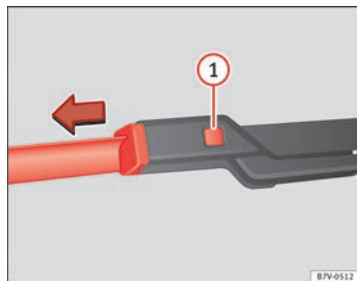

Fig. 160 Changing the front wiper blades
- Hold down the release button ⇒ fig. 160 ① while gently pulling the blade in the direction of the arrow.